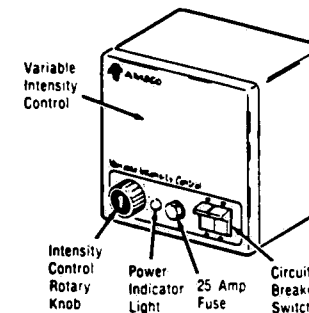

Figure 3-7. 25 AMP VARIABLE INTENSITY CONTROLLER.
3.3.9 Check Variable Intensity Control Operation (See Figure 3-7)